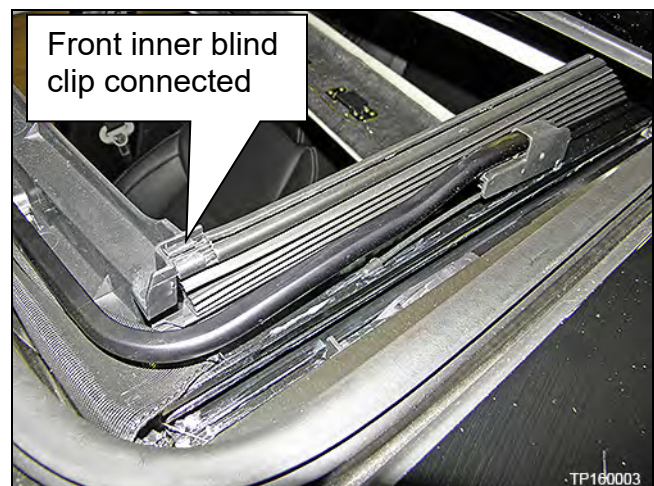

Figure 25
b. Reconnect the front clip of the inner blind to the front corner of the Moonroof frame (Figure 25).